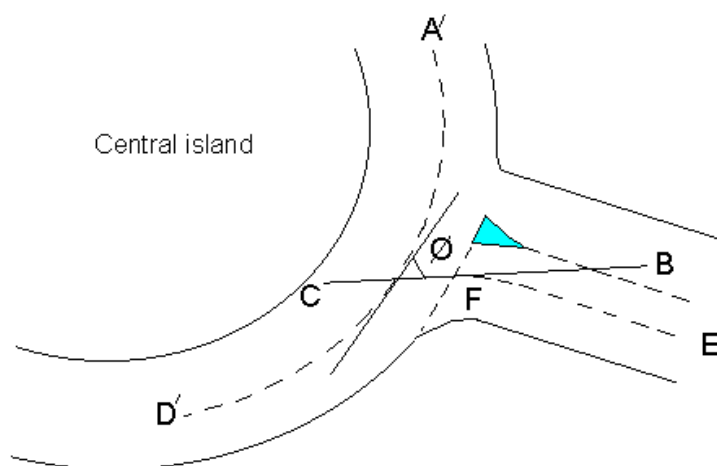
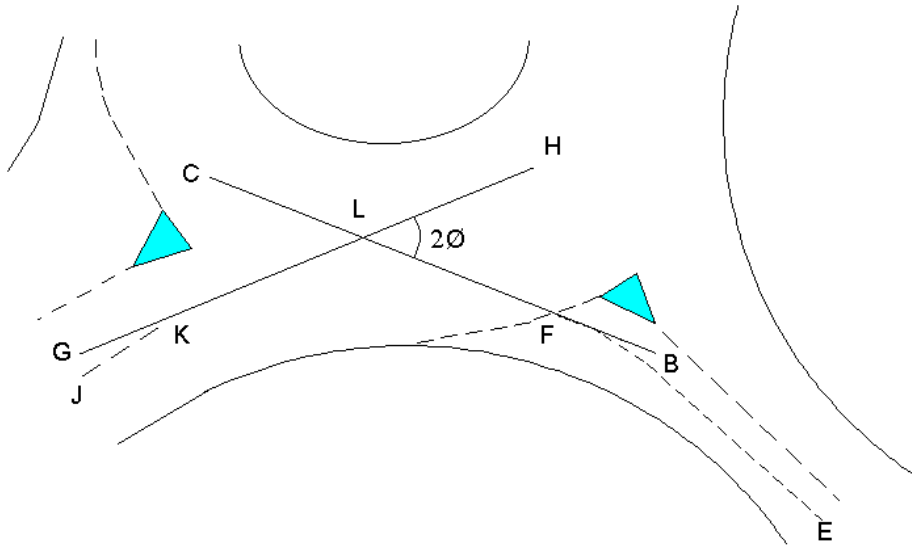

Figure 23-3
Figure 23-4
**For conventional roundabouts (i.e. those with identifiably parallel-sided weaving sections, where the arms are well separated),** the angle measured is in effect that between the projected path of an entering vehicle and the path of a circulating vehicle. The construction is illustrated in Figure 23-3.
**For other cases the construction is as in Figure 23-4.** This construction is used when there is insufficient separation between entry and adjacent exit to be able to define the path of the circulating vehicle clearly. In this case, circulating traffic which leaves at the following exit will be influenced by the angle at which that arm joins the roundabout. The angle between the projected entry and exit paths is measured and then halved to find PHI, as follows:
If it is not clear which of the two methods should be used, the following should clarify the situation. All three vehicle paths (entry, exit and circulatory carriageway medians) should be constructed, and the entry and exit paths projected towards the roundabout centre. The choice of construction for PHI depends on where these projections meet: if the meeting point is closer to the centre of the roundabout than the arc of the circulatory carriageway median, then the construction for conventional roundabouts as shown in Figure 23-3 should be used; if they meet outside that area, then the construction for small roundabouts as illustrated in Figure 23-4 should be used. In the limiting case where all three medians intersect at a point, it is common for the circulatory carriageway median approximately to bisect the angle between the other two medians, so that the two methods become equivalent